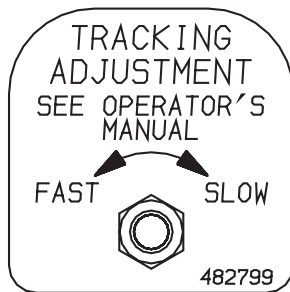

Figure 11. Tracking Adjustment
3. If the machine pulls to one side. Stop the mower by placing the steering control levers in the neutral position. Using the adjustment wrench located on the left side of the machine, turn the tracking adjustment nut on the slower side counter clockwise until the machine tracks straight. (See Figure 11, Page 14).